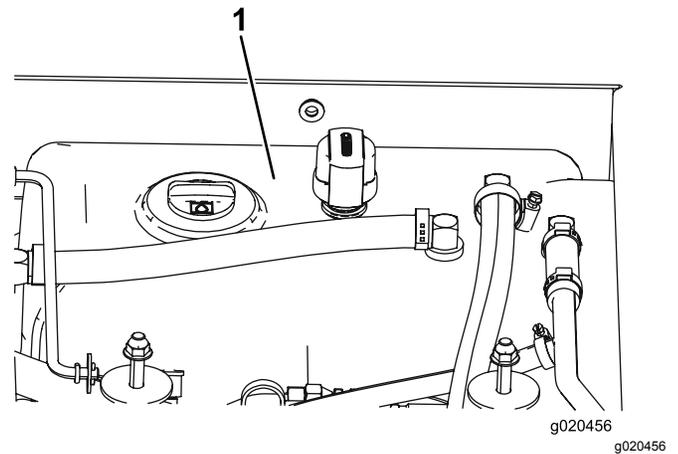

Figure 116
4. Fill the reservoir (Figure 116) with hydraulic fluid; refer to Changing the Hydraulic Fluid \(page 75\).